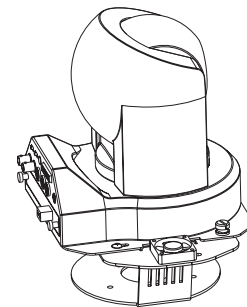

**Figure 4**
- 1 Install the Sony BRC300 pan/tilt onto the quick release bracket using the (4) screws provided with the camera (Figure 4).